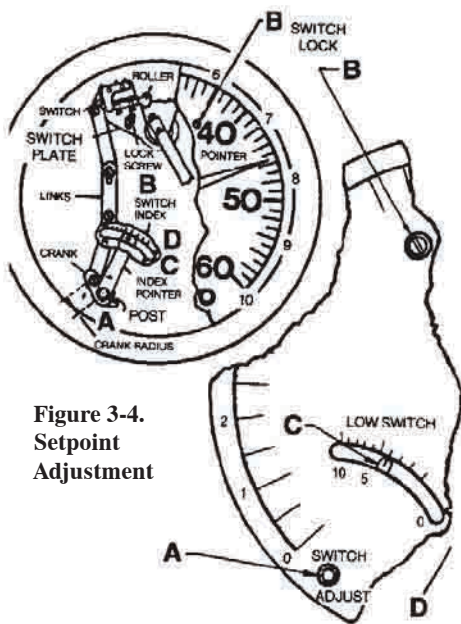

Figure 3-4.
2. Insert hex wrench in switch adjust post, (item A, Fig. 3-4).
Note: Switch index has 10 divisions shown by tick marks in Figure 3-4. Positions 0, 5, and 10 are also labeled along the bottom of the index as well.